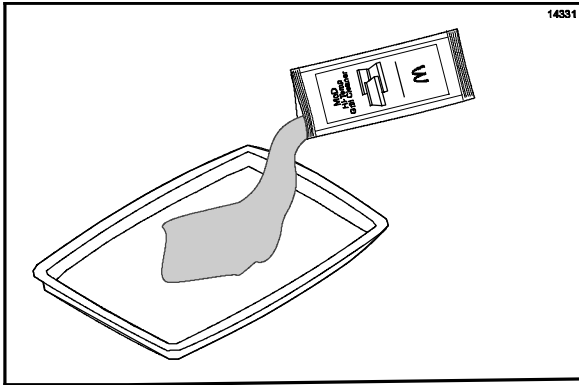

Figure 87
13. Open one packet of **McD Hi-Temp Grill Cleaner (HTGC)**. Empty the contents into an entrée base or stainless steel pan. (See Figure 87.)